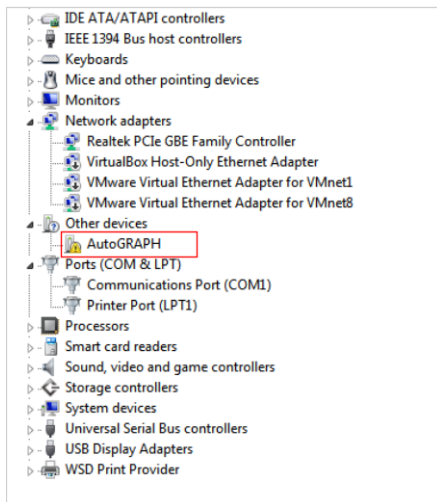

Fig.2. The device with old driver.
- Device will be automatically detected when it is connected to the PC running MS Windows 7. The Device Manager detects a new device – AutoGRAPH (Fig.2). Download drivers with MS Windows 7 support (AutoGRAPH\_DRIVER\_AND\_GPS-MOUSE.zip) from official website of TechnoKom and install them manually.